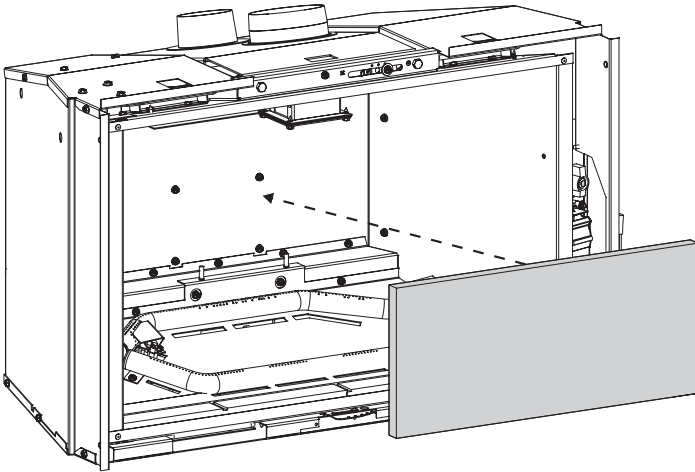

Figure 2
1. Place rear liner on the back of the firebox and hold with one hand. See Figure 2.